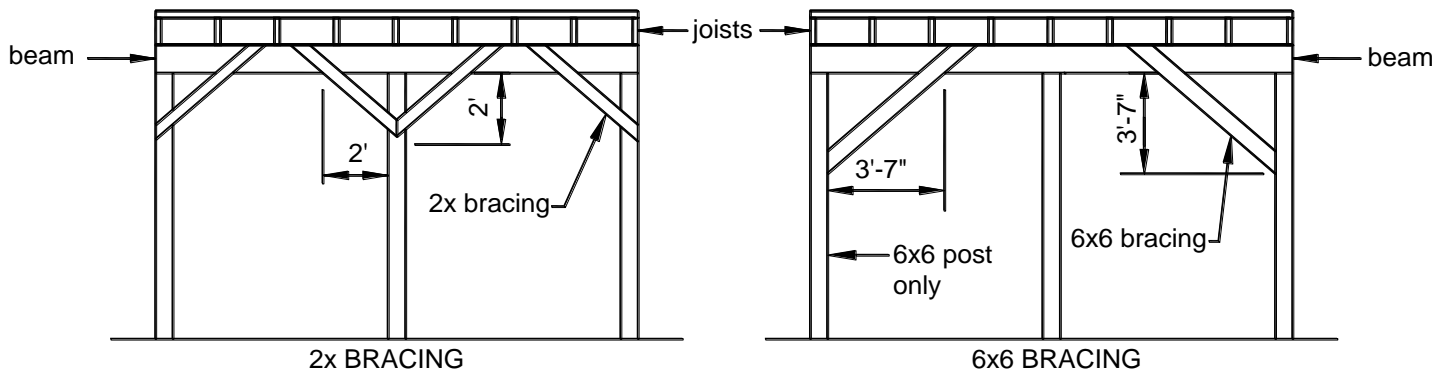

**FIGURE 22: TENSION TIE LOCATIONS
- Tension-ties (four total) shall be installed at the end joist and first inside joist at each end of the deck as shown in FIGURE 22. A set of tension-ties shall be installed for each structurally independent section of a multi-level deck. (Options ties can be spaced equally apart along the deck ledger).